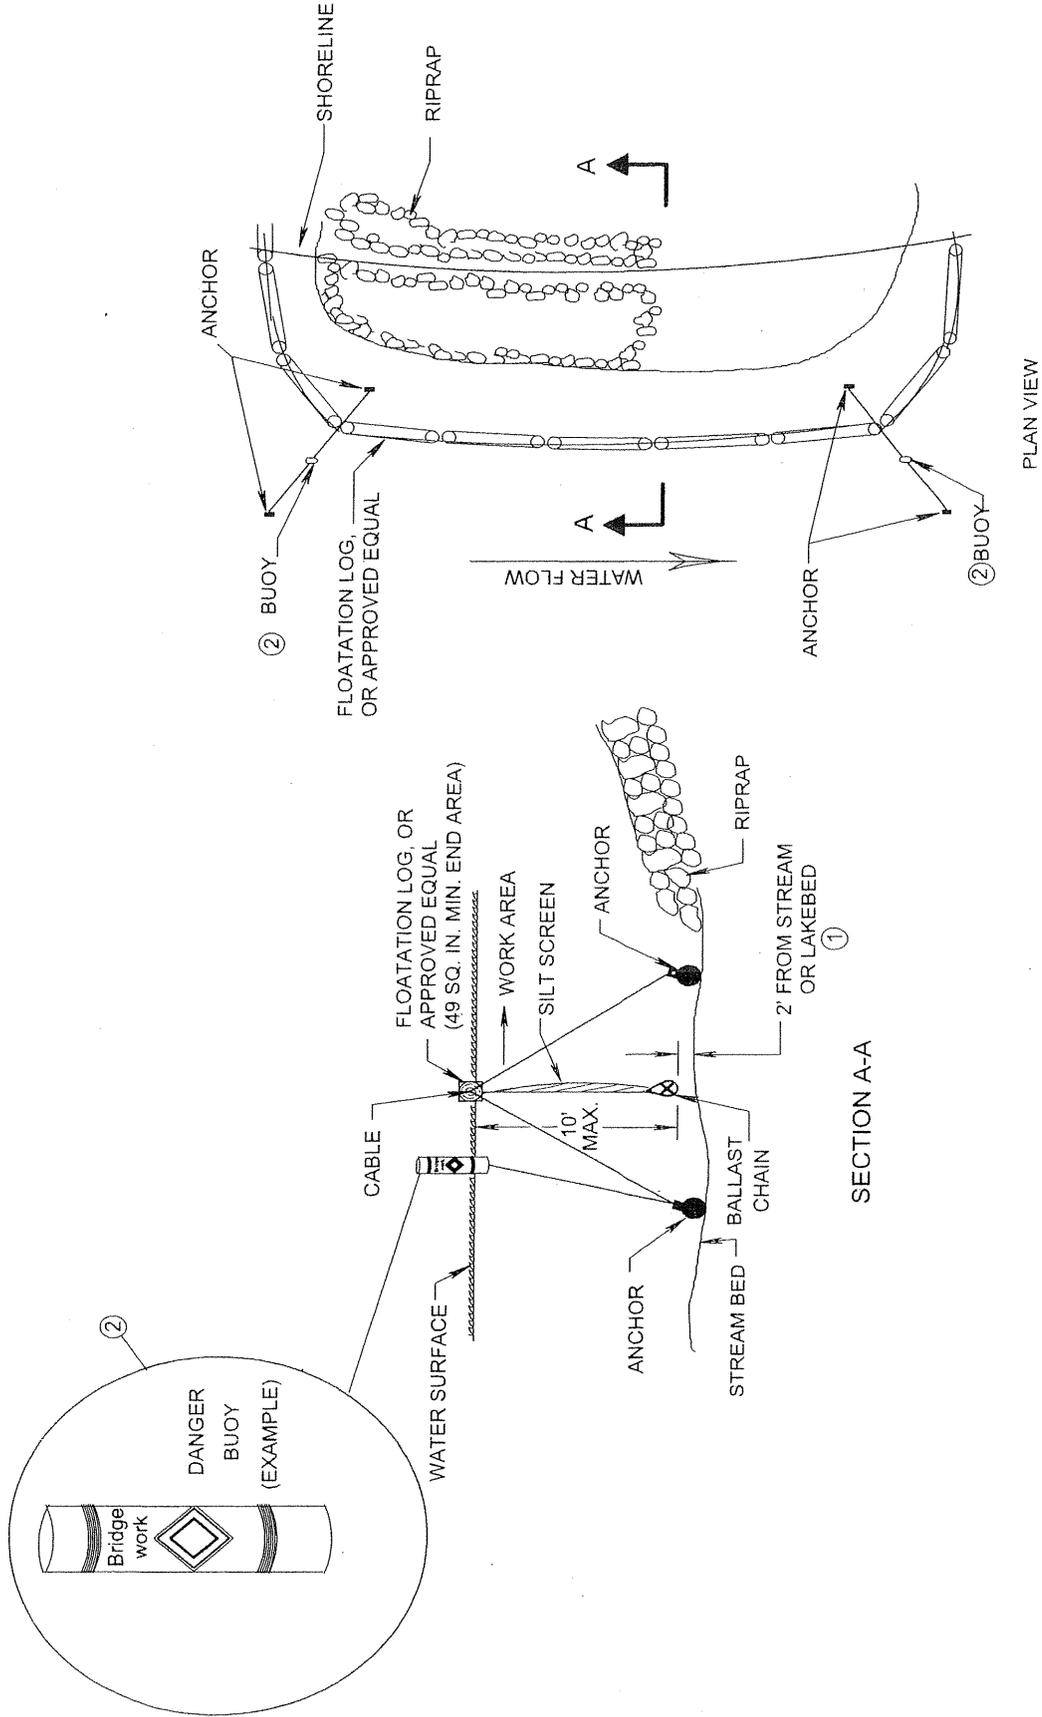

FIGURE 1. SILT CURTAIN PLACEMENT DETAIL
A. **Installation** – Details of construction not listed in the text shall conform to the pertinent requirements of Figure 1.